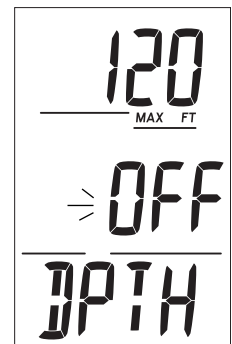

Fig. 21 - Set DEPTH AL
**Set Depth Alarm**, information includes (Fig. 21):